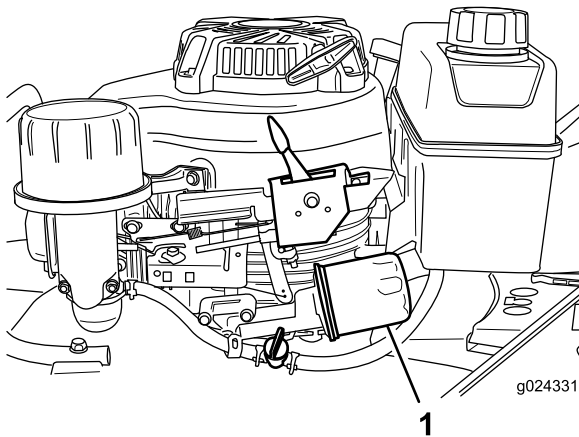

Figure 19
6. Place a rag under the oil filter (Figure 19) to catch any oil that may leak out as you remove the oil filter.